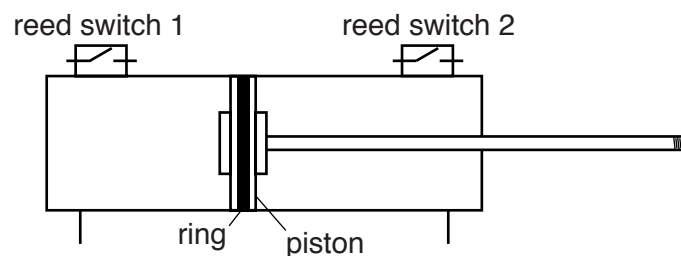

Fig. 10
- (b) Fig. 10 shows the symbol for a double acting reed switch pneumatic cylinder.